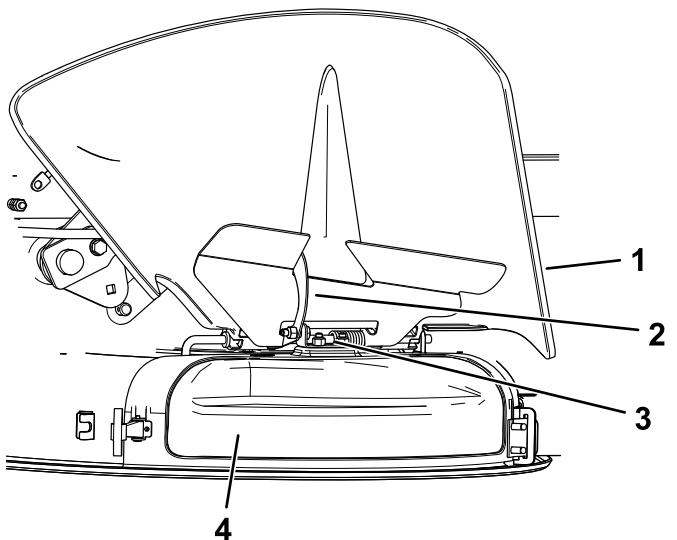

Figure 16
- Release the hook-shaped latch on top of the discharge cover from the pivot rod (Figure 16).
- On the top of the discharge cover, engage the hook-shaped latch around the pivot rod of the deflector assembly (Figure 16).